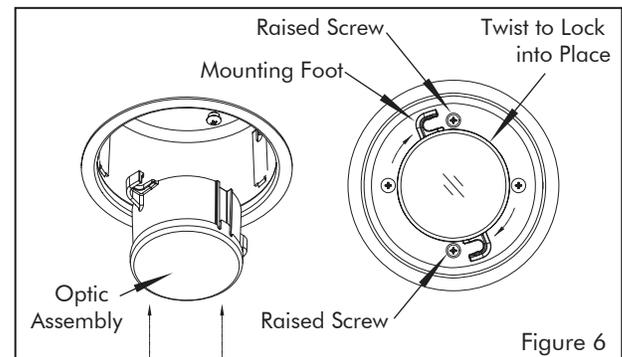

Figure 6
15. Insert optic assembly into housing, with mounting feet aligned with raised screws. Twist optic assembly clockwise so mounting feet engage screws. Twist firmly to lock in place (see figure 6).